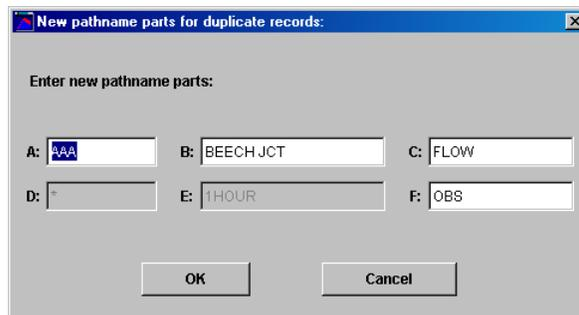

Figure E.18 HEC-DssVue New Pathname Parts for Duplicate Records Dialog Box
1. Select the record(s) either by double-clicking on it or by highlighting it then clicking the **Select** button. From the **Utilities** menu, select **Duplicate Records**. The **New pathname parts for duplicate records** dialog box (Figure E.18) will open.